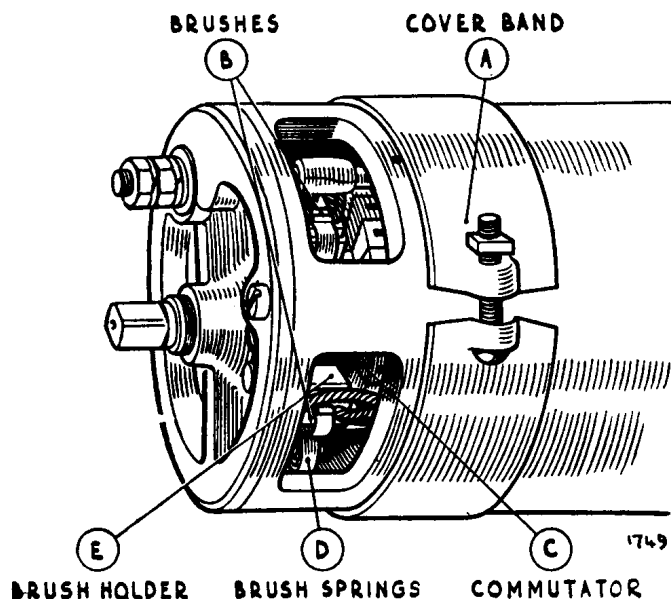

Fig. N.9
Remove the starter cover band (A) (Fig. N.9) and examine the brushes (B) and the commutator (C). Hold back each of the brush springs (D) and move the brush by pulling gently on its flexible connector. If the movement is sluggish, remove the brush from its holder (E) and ease the sides by lightly polishing on a smooth file. Always replace brushes in their original positions. If the brushes are worn so that they no longer bear on the commutator or if the brush flexible has become exposed on the running face they must be renewed.
Take off the cover band (A) (Fig. N.9) at the commutator end, hold back the brush springs (D), and take out the brushes (B) from their holders.